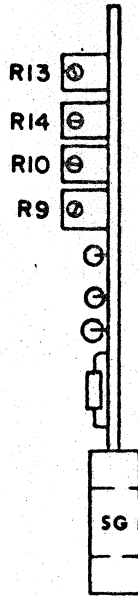

Figure 5-1
Step 2: With power ON, select Remote Mode at the Operator Control Panel (OCP). When the REMOTE switch indicator illuminates, the system is ready for operation. Set Write Permit input to the TRUE level. Adjust potentiometer R9 on the Strobe Generator card (B8) to obtain a reading of 1.4 volts on the voltmeter. (See Figure 5-1.)
5-12. Read Strobe. The Strobe Generator is adjusted for the proper delay time while writing all ONES at the required data transfer rate. Table 5-5 lists bit densities and the associated adjustment. See Figure 5-1 for potentiometer location on the PCB.
- Step 2: Run the tape forward while writing all ONES. Adjust potentiometer R13 (B8) for proper delay time. (Refer to Table 5-5 and Figure 5-1.)
- Step 3: Select low density input at OCP. Adjust potentiometer R14 for designated delay time. (Refer to Table 5-5 and Figure 5-1.)